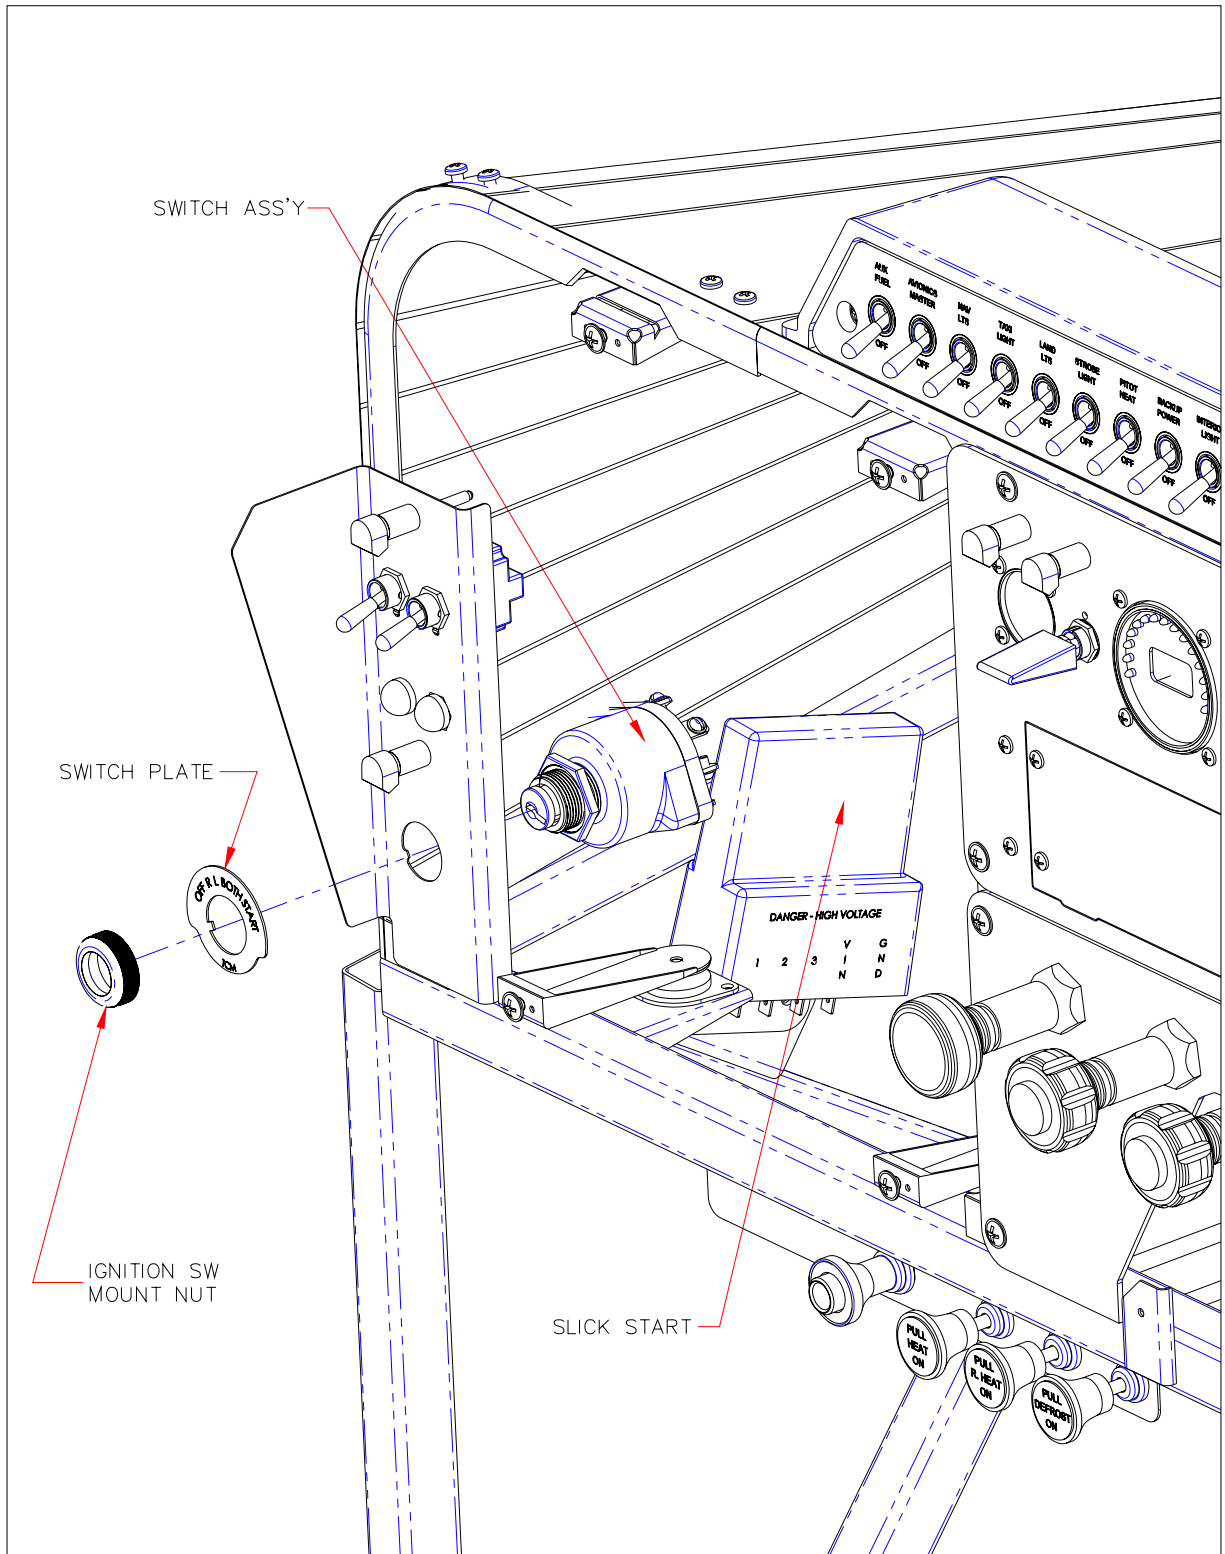

FIGURE 2 IGNITION SWITCH – REMOVAL
3. It is recommended the wiring be modified with the flight panel removed. See MM FAC2-M200 Section 31-11 Flight Instrument Panel for removal details. With reference to Figure 2, remove the ignition switch mount nut and switch plate. This will allow the switch to be removed and provide easier access to the back of the switch assembly.